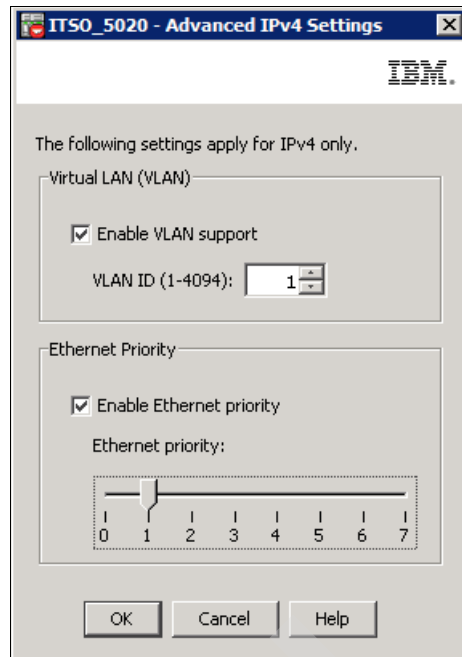

Figure 3-18 VLAN and Priority
2. Select an iSCSI host port, and assign the IP address, mask, and gateway as usual with all Ethernet cards, in either of the IPv4 or IPv6 tabs. If you are planning to use VLAN Tags (802.1Q), or set Ethernet priority (802.1P), click **Advanced IP Settings** to define them, as shown in Figure 3-18. Repeat the process for at least one port in controller A, and one port in controller B.
Set Jumbo Frames, VLANs, and Ethernet priority in the iSCSI adapter in accordance to the settings specified in the DS Storage Manager in Figure 3-18, "VLAN and Priority" on page 82.